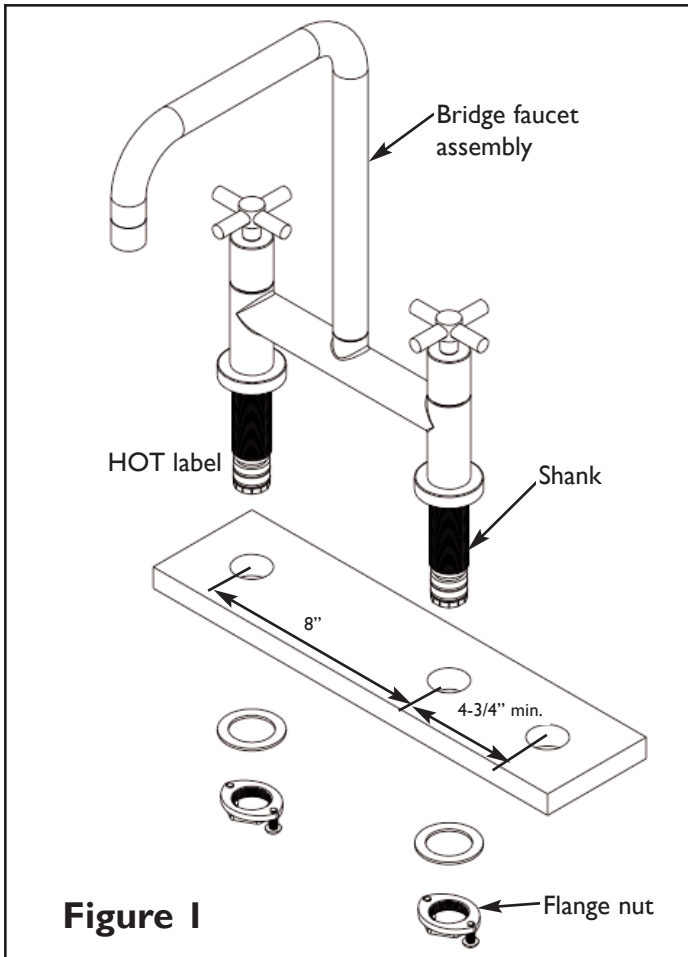

Figure 1
1. Place bridge faucet body through holes on mounting surface and secure into place with flange nuts. Place shank with red paint into left side deck hole. See **Fig. 1**.